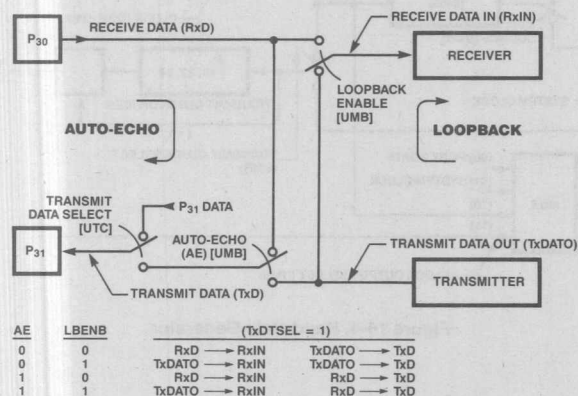

Figure 10-3. Auto-Echo/Loopback
As shown in Figure 10-3, the UART can be configured to automatically transmit any data coming in at the Receive Data input pin (P₃₀) RXD. This auto-echo mode of operation is enabled by setting the Auto-Echo (AE) bit in the UART Mode B (UMB) register to 1. In addition, the Transmit Data Select (TXDSEL) bit in the UART Transmit Control (UTC) register must be set to 1 for this mode to work correctly.